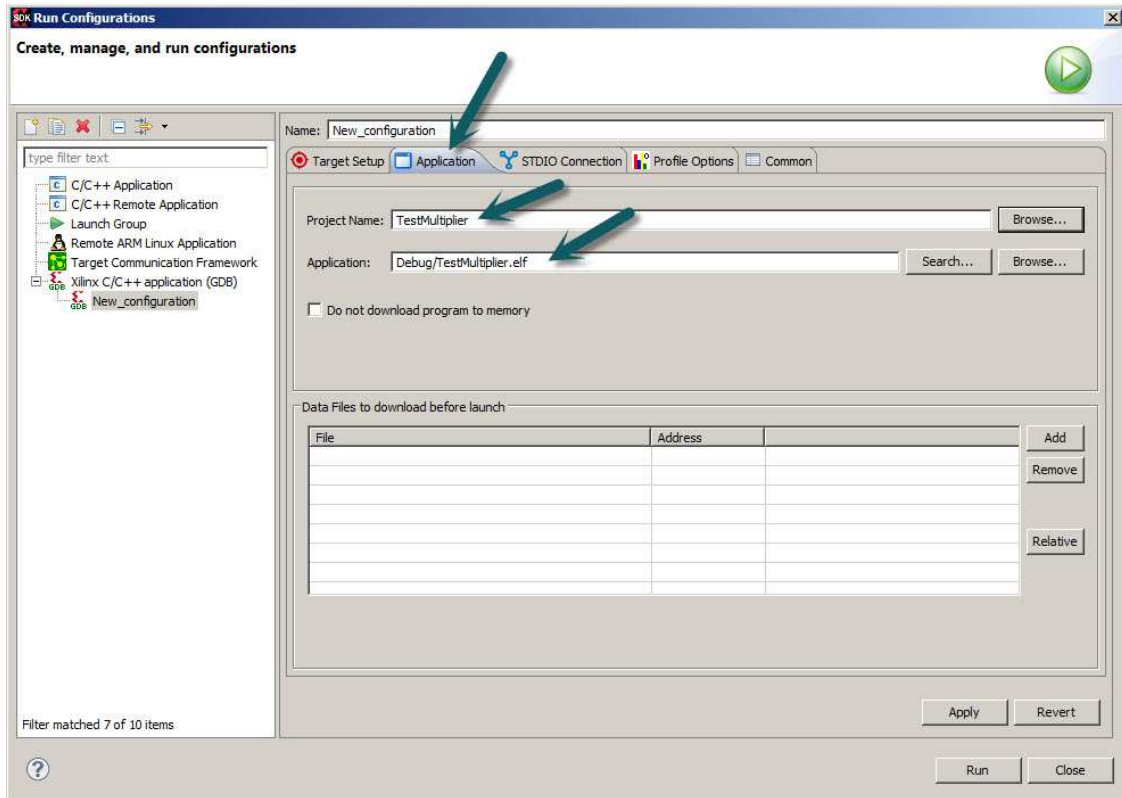

Figure 51: Application associated with your run configuration
7. Make sure you have an application associated with your run configuration as seen in **Figure 51**.